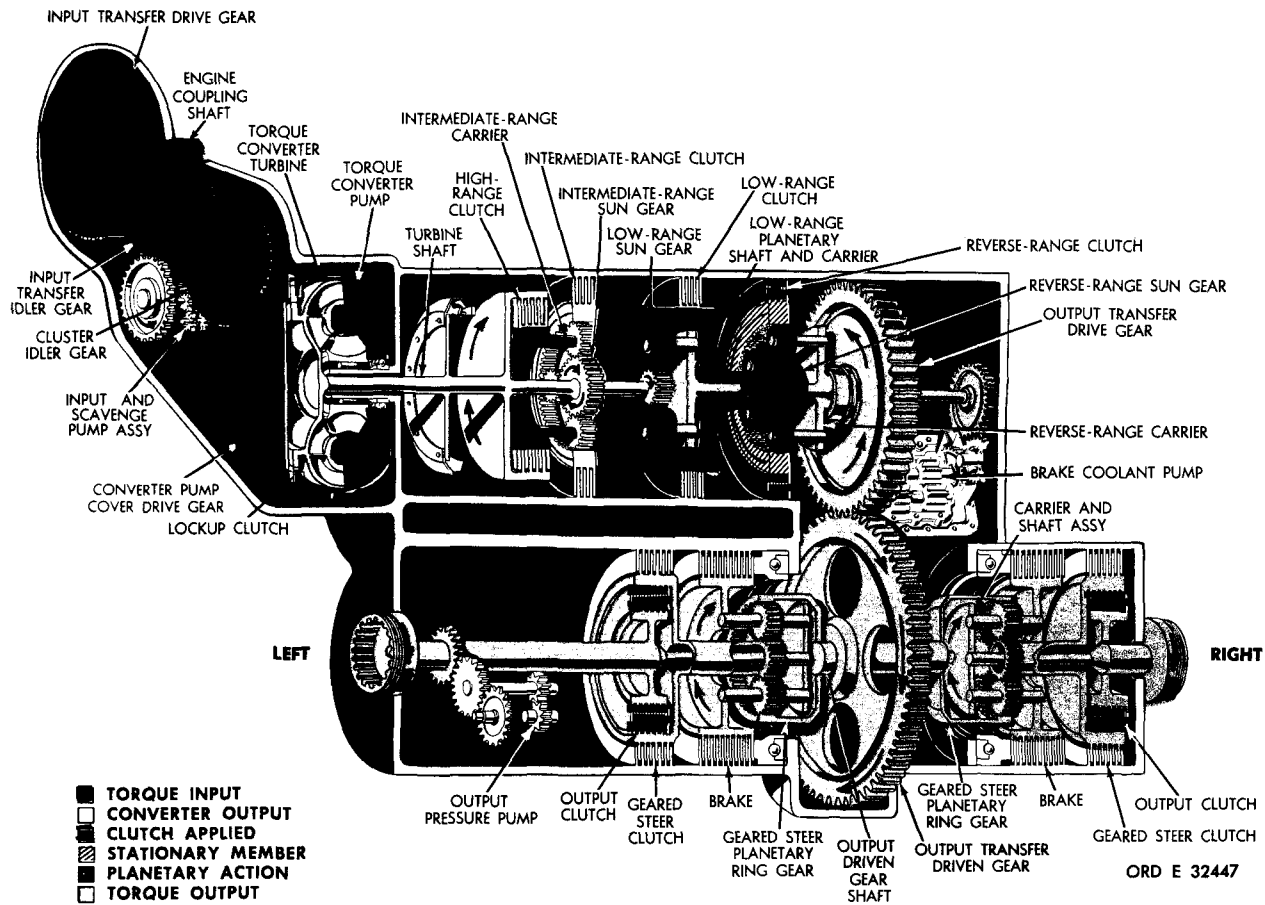

Figure 28. Reverse 2-gear torque path, converter operation
**52. TORQUE PATH - REVERSE 2 GEAR, CONVERTER OPERATION (fig. 28)**